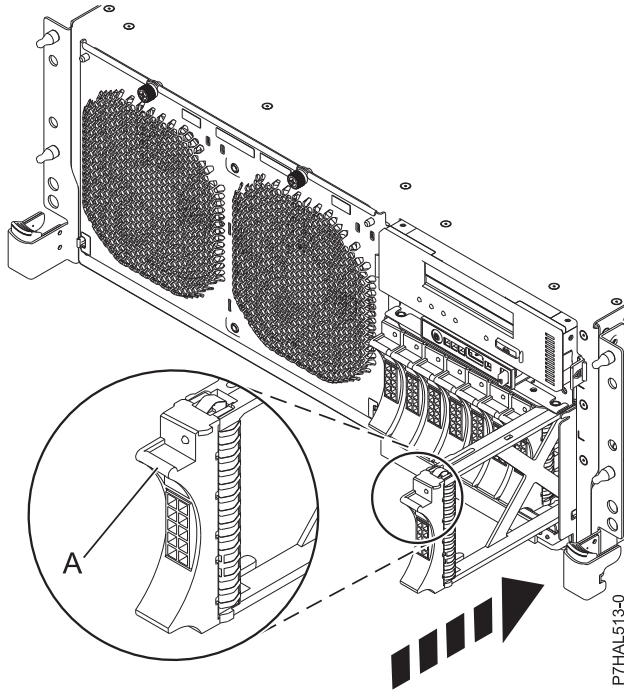

Figure 41. Installing a disk drive filler in the 8202-E4B, 8202-E4C, 8205-E6B, or 8205-E6C.
2. Slide the disk drive filler all the way into the system or expansion unit, and push the disk drive filler handle (A) until it locks, as shown in Figure 41 on page 97.